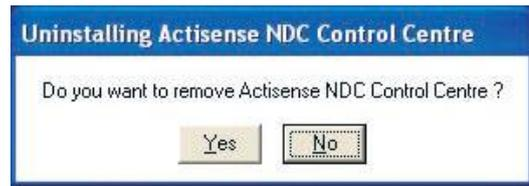
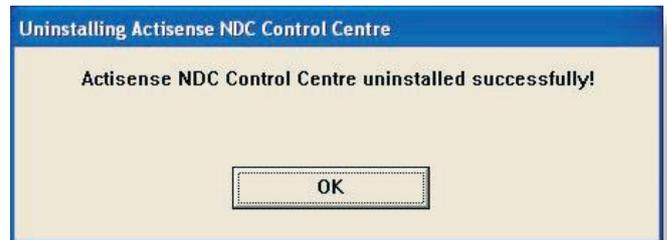

Figure 8 – Uninstall confirmation
Figure 9 – Uninstall complete
3. Once the uninstall operation has been requested, the confirmation box (figure 8) will be displayed. Answer ‘Yes’ and the uninstall operation will be performed automatically. After successfully uninstalling the Actisense PC software, the uninstall completion box will appear (refer to figure 9).